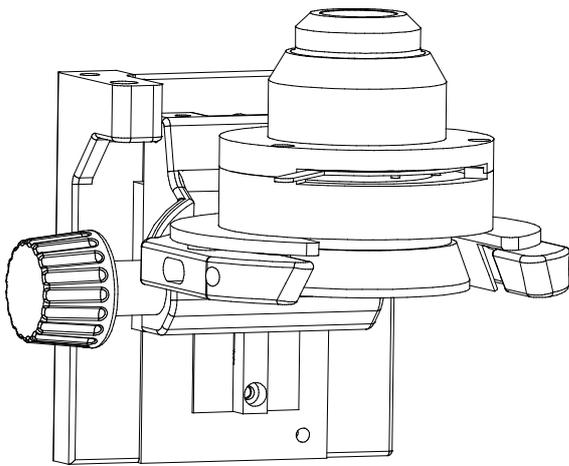

Fig.5
(3) If you choose the dark field condenser to observation, you need to adjust the center of the condenser for the symmetrical illumination. If you choose the dark field immersion oil condenser to observation, you need to put some anisol to fill the room of the between of sample and condenser for the dark field observation, as be shown in Fig.5.